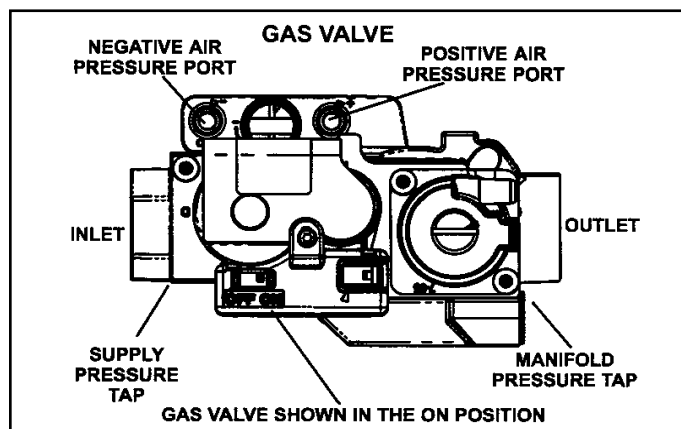

Figure 57.
See Figure 57
6. Move the gas valve switch to the OFF position. See Figure 57.
8. Move gas valve switch to the ON position. See Figure 57. **DO Not** force.